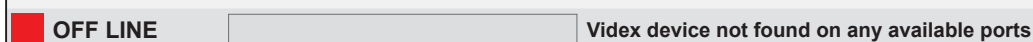
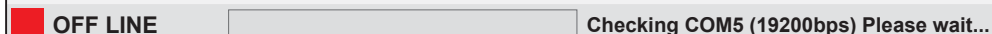
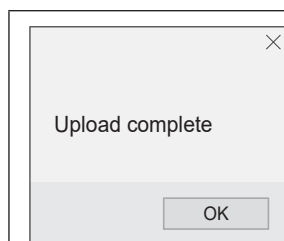
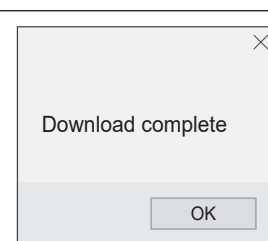

Fig. 125
Fig. 126
Fig. 134
Fig. 135
- **OFF LINE:** see **Fig.125**, this indicates that the GSM module has not been detected by the PC software and is not connected. It should be noted that when the connection status is showing as **OFF LINE** the 'Data' and 'Sort' top menu options are greyed out and not available. These menu options will only become available when the software is connected to the GSM module and showing as **ON LINE**. To get the GSM module back **ON LINE** refer to the following notes: **GSM panel detection** and **Connecting the Software to the GSM module (ON LINE)** on page 15.
- **CHECKING COMM PORTS (OFF LINE):** see **Fig.126**, this indicates that the PC software is checking through the PC's available comm ports trying to make a connection with the GSM module, usually after the **Auto Detect** button has been pressed on the **main programmer window**. After a brief delay the panel type prompt window will appear (refer back to **Fig.12**, page 14) so that the appropriate GSM panel type can be selected before trying to re-establish a connection again between the GSM module and the PC software.
After an upload has finished an upload prompt window will appear, **Fig.134**. Similarly after a download has finished a download prompt window will appear, **Fig.135**.
If there is an issue with the connection (whether it is the USB or RS485 connection) and the PC software is showing the GSM module is **OFF LINE** (as indicated by **Fig.125**) and the **REFRESH** button has been pressed on the **main programmer window** the no comm ports prompt window will appear, **Fig.135**. Click on the **OK** button then follow the **OFF LINE** notes on page 56 (also refer to **Fig.125** and **Fig.126**). If there is still an issue with the PC software detecting the GSM module also try following the notes on **GSM panel detection** and **Connecting the Software to the GSM module (ON LINE)**, on page 15, to try and resolve the issue.
- At this point the connection status at the bottom of the programming screen will show **OFF LINE**, refer to **Fig.125**.
- If the PC software is still showing the GSM module as **OFF LINE**, see **Fig.125**, then follow the notes **GSM panel detection** and **Connecting the Software to the GSM module (ON LINE)** on page 15.